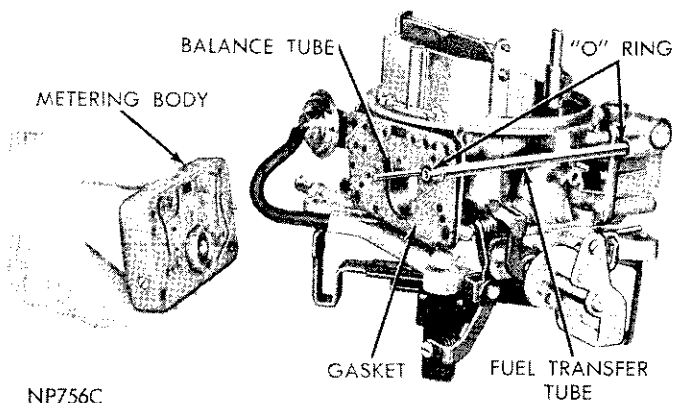
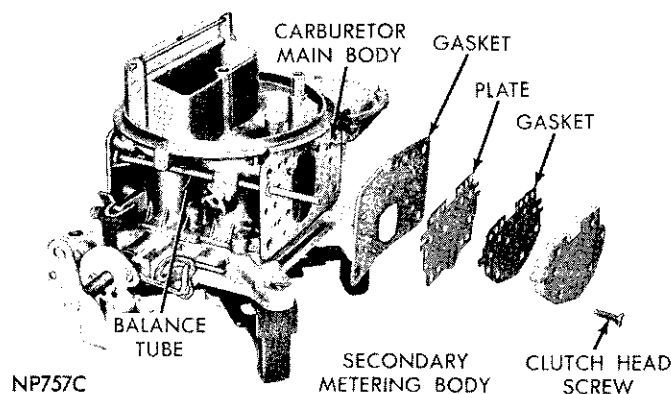

Fig. 3—Removing or Installing Primary Metering Body and Plate
Fig. 4—Secondary Metering Body, Plate and Gaskets
(3) Remove primary metering body by sliding straight off balance tube (Fig. 3). Remove plate to body gasket.
(4) Remove accelerating pump operating lever "E" clip and slide lever assembly off stub shaft. Remove adjusting nut, spring and screw.
(5) Remove fuel transfer tube and "O" rings (Fig. 3).
(6) Remove secondary fuel bowl assembly.
(7) Using a clutch head screwdriver (Tool CL-13) remove clutch head screws, carefully work secondary metering body, plate and gaskets off balance tube (Fig. 4).
(8) Remove balance tube, washers and "O" rings by sliding out of main body (either end).
(9) Disconnect choke diaphragm hose from throttle body fitting, then remove diaphragm assembly, at the same time disengaging link from fast idle cam lever.